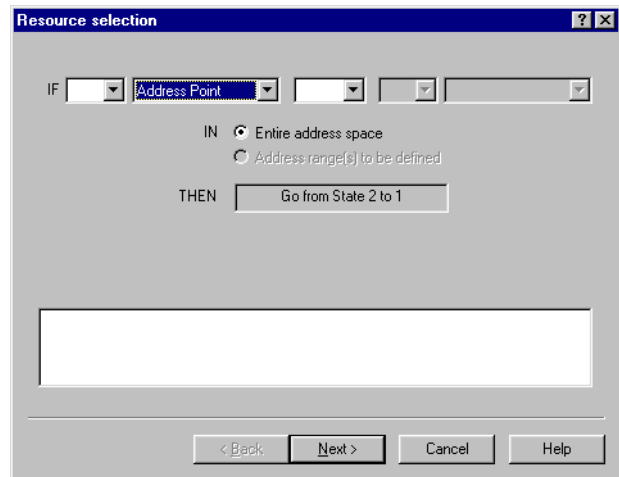

Figure 8-39 Resource selection for Enable Tracing
1. Double-click **Go from State 2 to 1** in the Actions list to define a rule. The Go from State 2 to 1 Resource selection dialog box shown in Figure 8-39 is displayed.